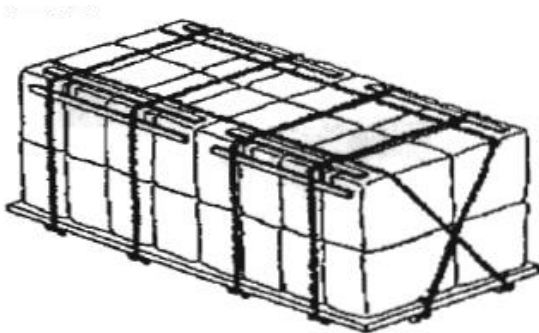

Figure 4
- (1) Loads with vertical bales two across in the bottom tier and vertical bales in the second tier:
- (a) Not less than two longitudinal binders shall extend in parallel lines over the top of the load and may be crossed or parallel at the ends, and not less than four crossbinders shall be uniformly spaced over V-boards, **see figure 4**; or